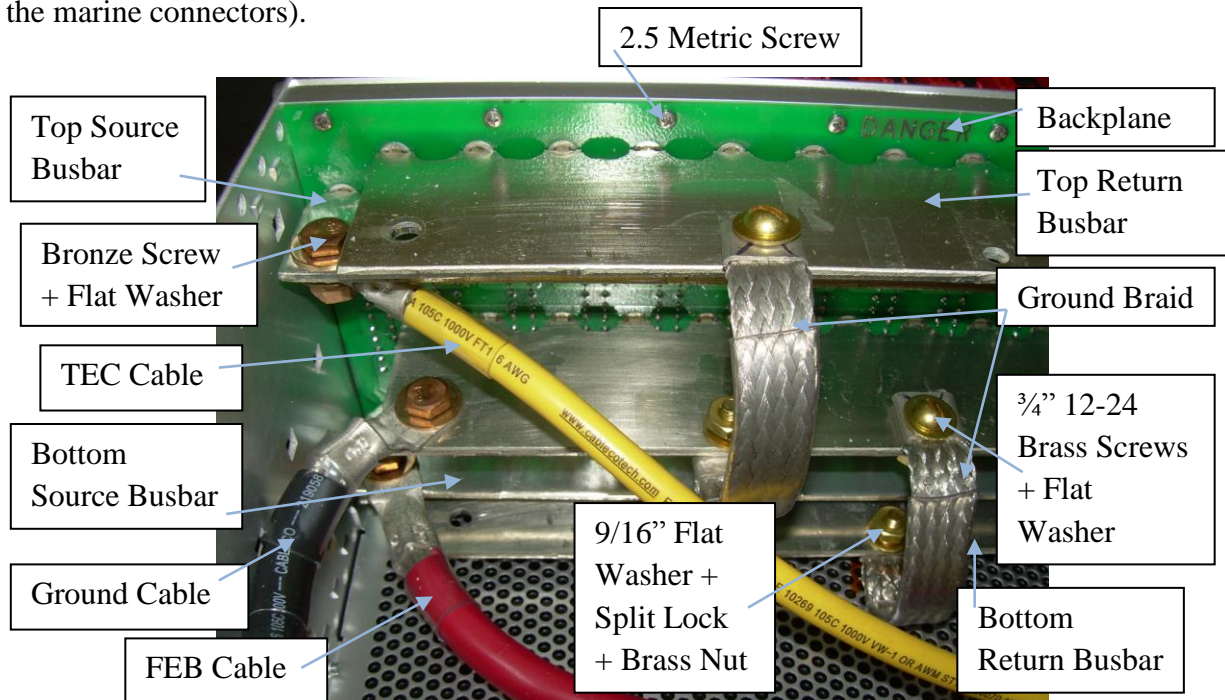

Figure 7
5. Attach the swivel nut end of the 52cm yellow 6AWG wire to the top of the 60A breaker (P#: BS7547, Blue Sea Systems). Slide the remaining length of wire through the opening between the backplane and the box's side panel. Using a 1/4" size 20 bronze screw (P#: 93516A539, McMaster-Carr), secure the lug UNDERNEATH the hole closest to the ground connector on the top source busbar. From the top to bottom, there should be the head of the bronze screw followed by a bronze flat washer (P#: 93490A029, McMaster-Carr), the busbar, the lug of the 6AWG wire, another bronze flat washer (P#: 93490A029, McMaster-Carr), a bronze split-lock washer (P#: 93496A029, McMaster-Carr), and a bronze hex nut (P#: 93439A610, McMaster-Carr). Refer to Figure 7.